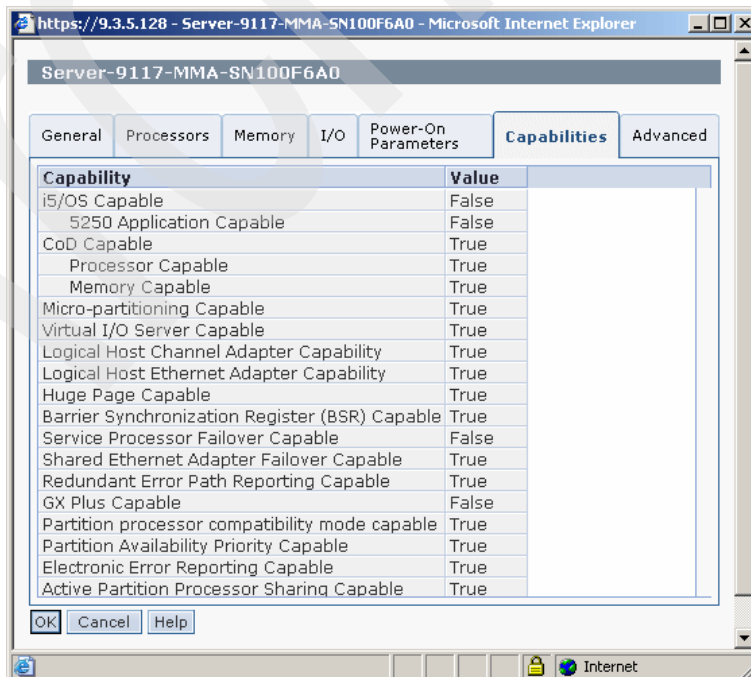

Figure 4-1 LHEA capability
- Within the servers panel, select your managed system and use the **Tasks** button to find **Properties**, then choose the **Capabilities** tab, as shown in Figure 4-1.